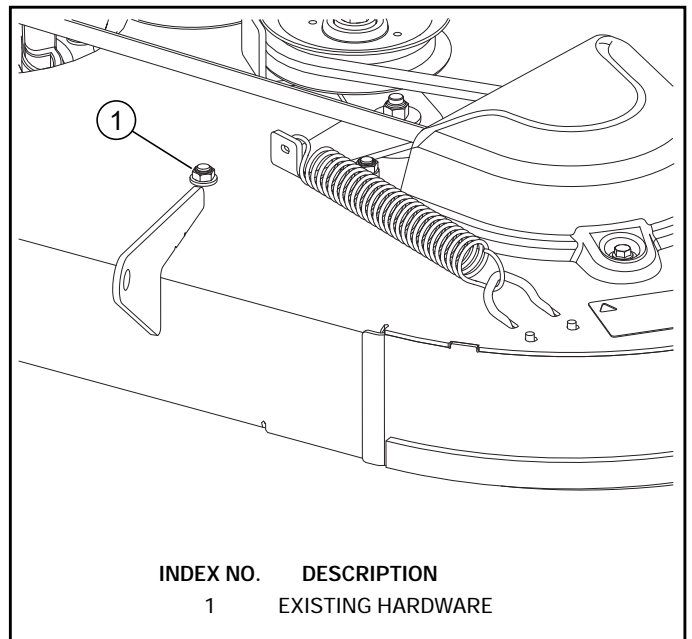

FIG. 2
4. Remove the bolt, flat washer, and nut shown from the deck plate. This hardware will not be used when the mulch kit is installed. Fig. 2